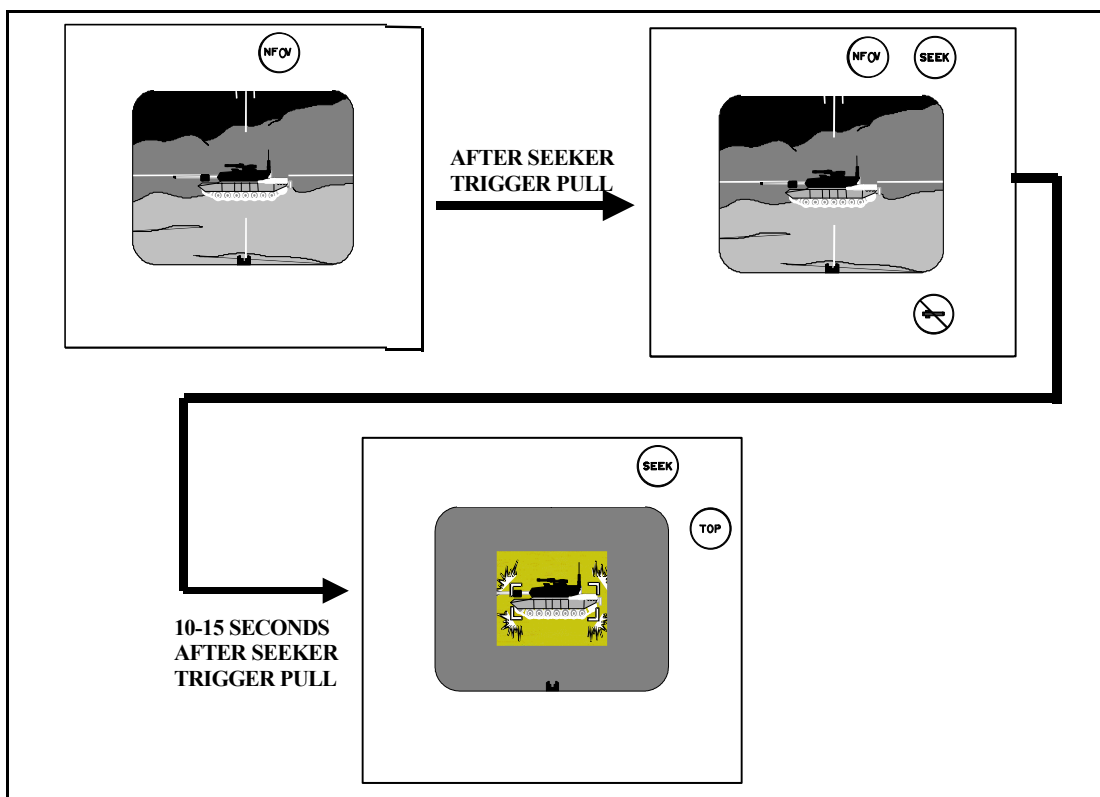

Figure D-5. NFOV to seeker FOV sequence.
(1) **Normal Operation.** When the gunner squeezes the seeker trigger and the **MISSILE NOT READY** indicator lights stays on for 10 to 15 seconds, the software download to the missile is not complete, missile BIT is not complete, seeker is not cooled down, or seeker video is not ready. After the seeker is cool and the software download is complete, the **MISSILE NOT READY** indicator goes off, and the seeker FOV is displayed on the CLU display (Figure D-5, page D-6).